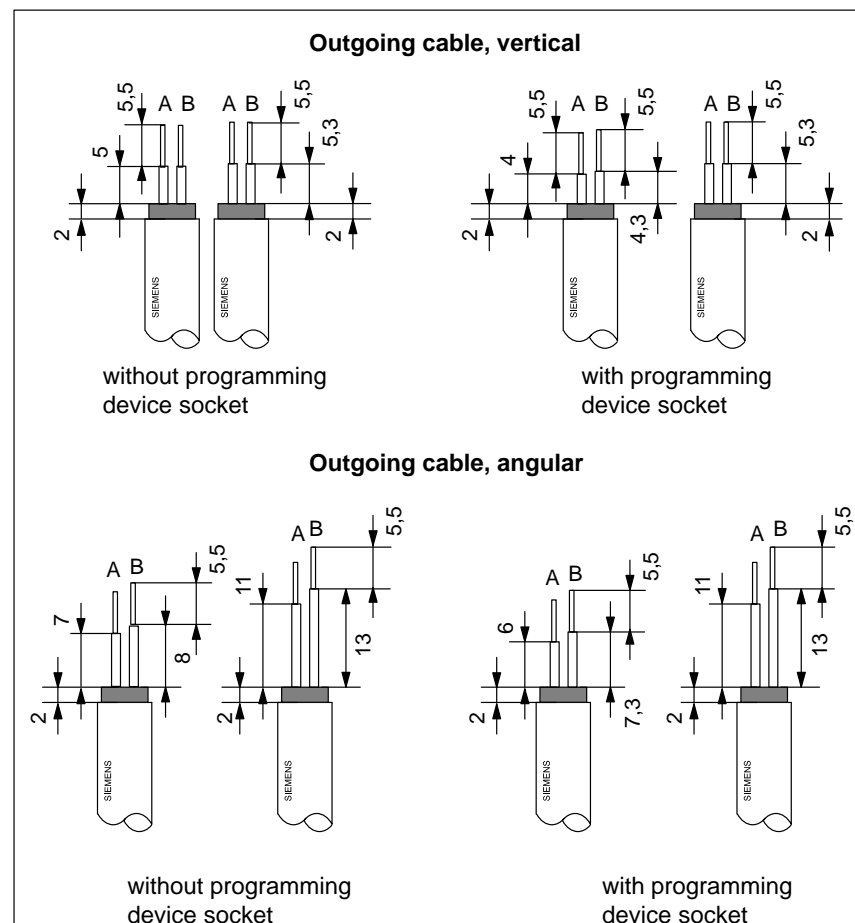

Figure 3-9 Length of Stripped Insulation for the Connection to the Bus Connector 6ES7 972-0B.20 ...
1. Strip the insulation off the bus cable as shown in Figure 3-9.